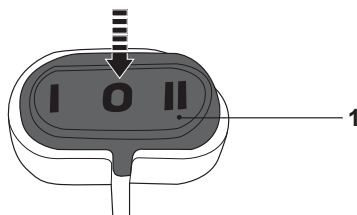

Fig. 17
- > Make sure the on / off switch (1) is in the off position O (Fig. 17).